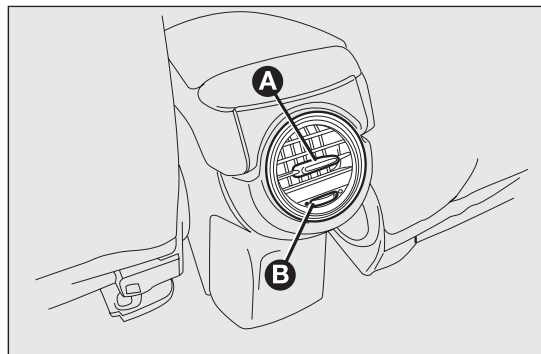

fig. 43
**A** Lateral and vertical air flow adjustment controls fig. 43.
**B** Air flow adjustment control fig. 43: